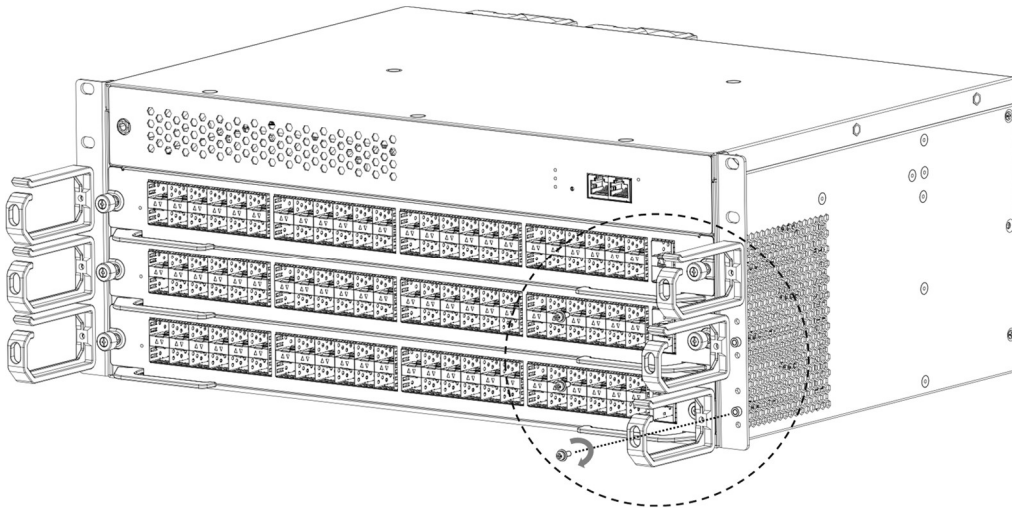

Figure 2-5 Install Fiber Spool Bracket
Step 1 Align the fiber spool bracket with the screw hole on the chassis L-shaped bracket (as shown in Figure 2-5).